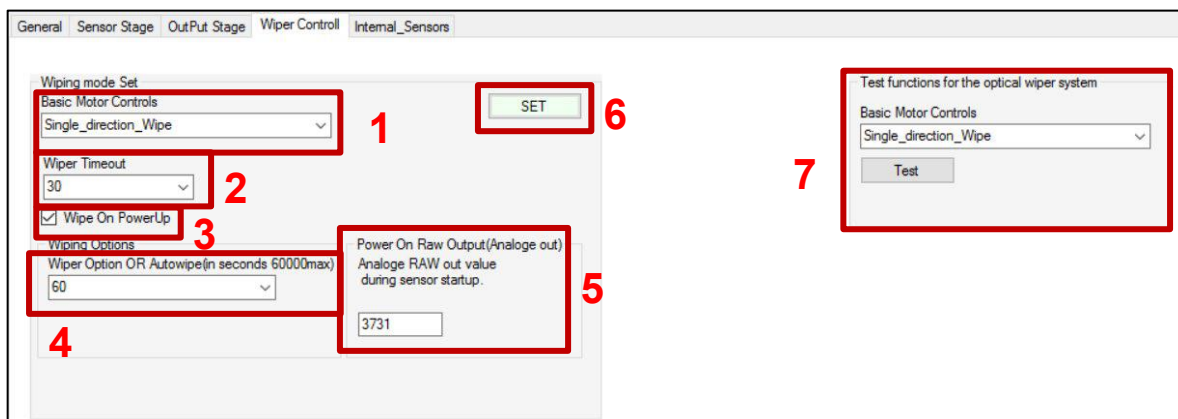

Figure 7.R: Basic wiper configuration tab
1. Select the correct wiper mode (Figure 7.R: #1)
2. Wiper timeout (Figure 7.R: #2)